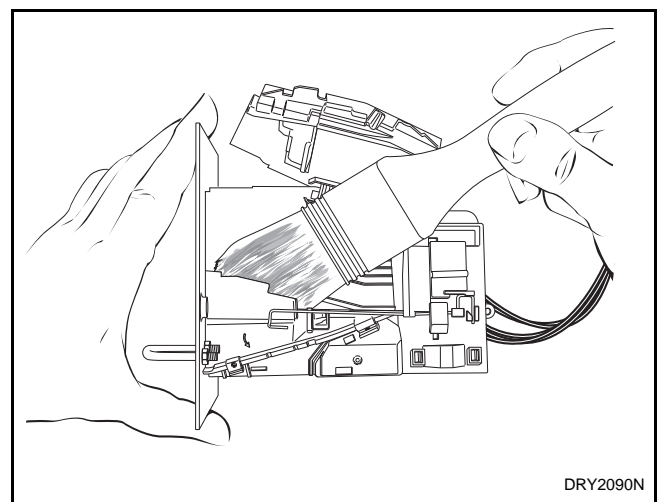

Figure 70
- Clean the coin path with a soft brush and wipe exposed surfaces with an alcohol moistened cloth. Refer to Figure 70.